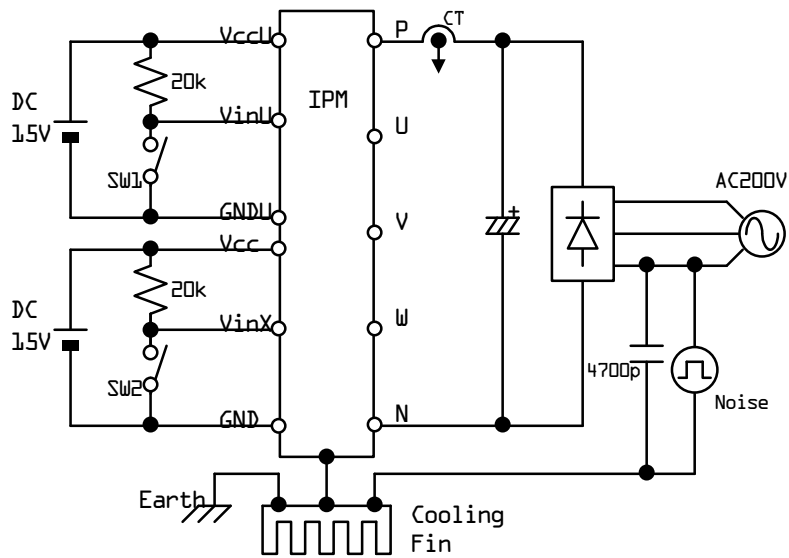

Figure 5. Noise Test Circuit
7. Noise Immunity (V_{dc}=300V, V_{cc}=15V, Test Circuit Fig 5)